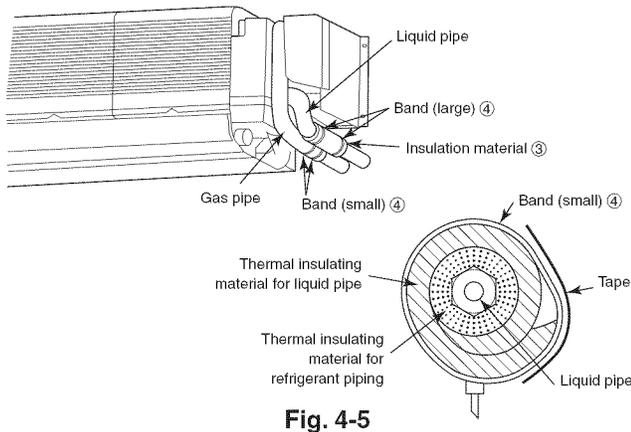

Fig. 4-5
4.4. Insulating pipes (Fig. 4-5)
Refer to the Fig. 4-5 for insulating.